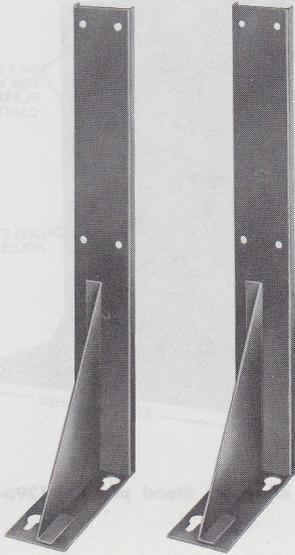

Fig. 28—Metal Stand per ED-95023-70
6.03 The metal stand per ED-95023-70† (Fig. 28) has two leg assemblies used to mount one 16A apparatus mounting, or one J86731A, List 4 power plant, and may be used with the 16C apparatus mounting when redrilled locally. It is furnished with four RHM screws, four hex nuts, and four washers.